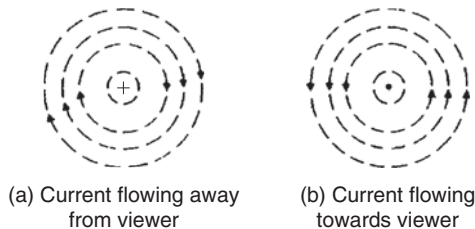
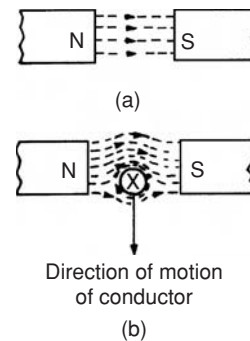

Figure 8.3
Figure 8.13
When dealing with magnetic fields formed by electric current it is usual to portray the effect as shown in Fig. 8.3 The convention adopted is:
- (i) Current flowing away from the viewer, i.e. into the paper, is indicated by $\oplus$. This may be thought of as the feathered end of the shaft of an arrow. See Fig. 8.3(a).
- (ii) Current flowing towards the viewer, i.e. out of the paper, is indicated by $\odot$. This may be thought of as the point of an arrow. See Fig. 8.3(b).
For example, with current flowing away from the viewer (Fig. 8.3(a)) a right-hand thread screw driven into the paper has to be rotated clockwise. Hence the direction of the magnetic field is clockwise.
If the current-carrying conductor shown in Fig. 8.3 (a) is placed in the magnetic field shown in Fig. 8.13(a), then the two fields interact and cause a force to be exerted on the conductor as shown in Fig. 8.13(b). The field is strengthened above the conductor and weakened below, thus tending to move the conductor downwards. This is the basic principle of operation of the electric motor (see Section 8.4) and the moving-coil instrument (see Section 8.5).